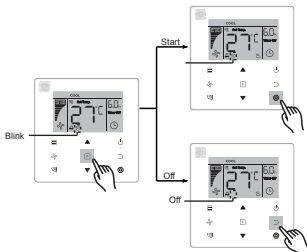

Figure 6.12
- Turn ON/OFF the **"Silent"** function: press **[F]** (Function) button to switch to the **"Silent"** function ("**🔇**" blinks), and press **[⏻]** (Confirm) button to turn on the function or **[⏪]** (Cancel) button to turn off the function (see Figure 6.12).